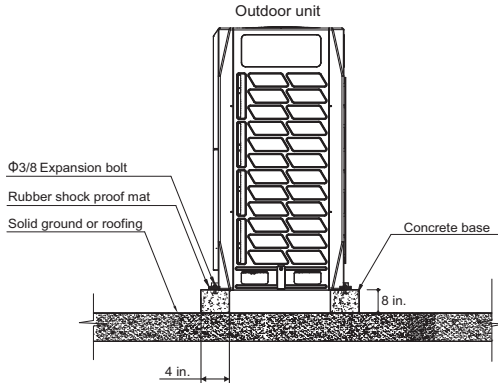

Fig. 7 — Concrete Base (Side View)
- When piping from the bottom of the unit, the base height should be no less than 8 in. See Fig. 7 and 8 for additional specifications.